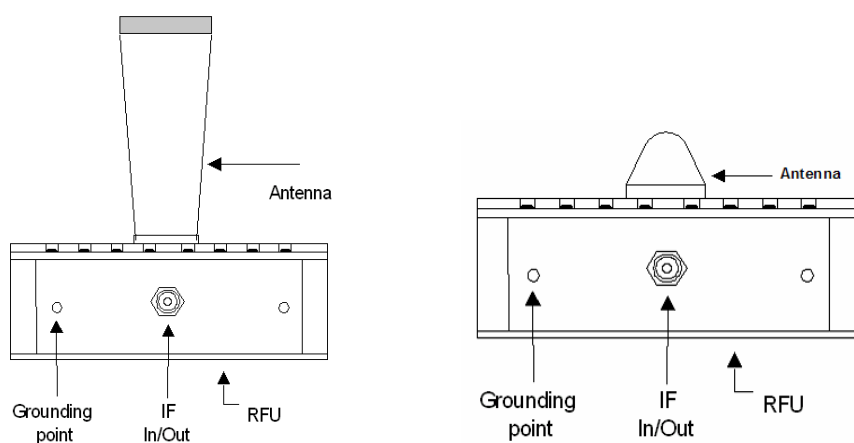

Figure 4-25: Connections for 26 GHz BS ODU with Horn (left) and Integrated (right) antenna
The procedure consists of connecting the ground and RF cables. See Table 4-1 and Figure 4-25. Note that a single coaxial cable is connected between each sector RFU and the respective sector IDU IF MUX/Power Feeder.
- Referring to Figure 4-25, connect the ground/earth cable to the BS ODU.
- Referring to Figure 4-25, connect a single coaxial cable is between the ODU and the IDU.